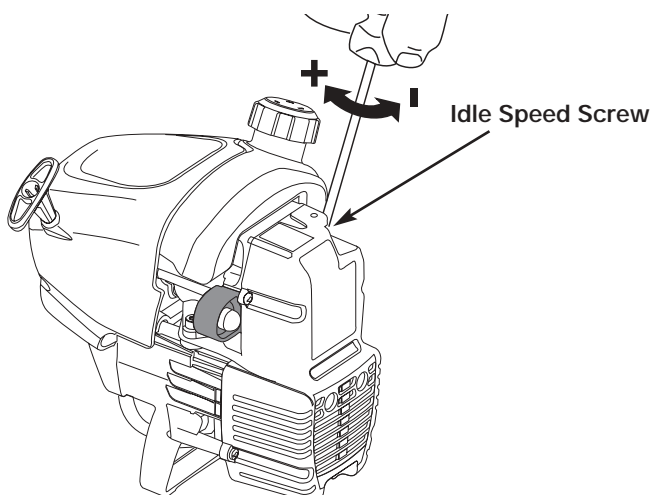

Figure 43
The idle speed of the engine is adjustable through the air filter/muffler cover. See Figure 43.
2. Release the throttle trigger and let the engine idle. If the engine stops, insert a small Phillips or flat blade screwdriver into the hole in the air filter/muffler cover. See Figure 43. Turn the idle speed screw in, clockwise, 1/8 of a turn at a time (as needed) until the engine idles smoothly.